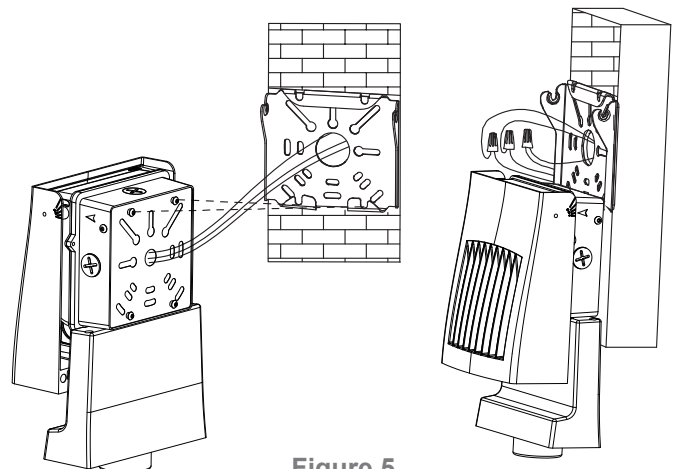

Figure 5
9. Using the 2 top back hanging screws of the fixture, temporarily hang the fixture on the bottom hooks of the mounting plate to safely make appropriate electrical connections by following the wiring diagram, use electrical connectors. Carefully tuck all the wires and connectors into the J-box. (Figure 5).